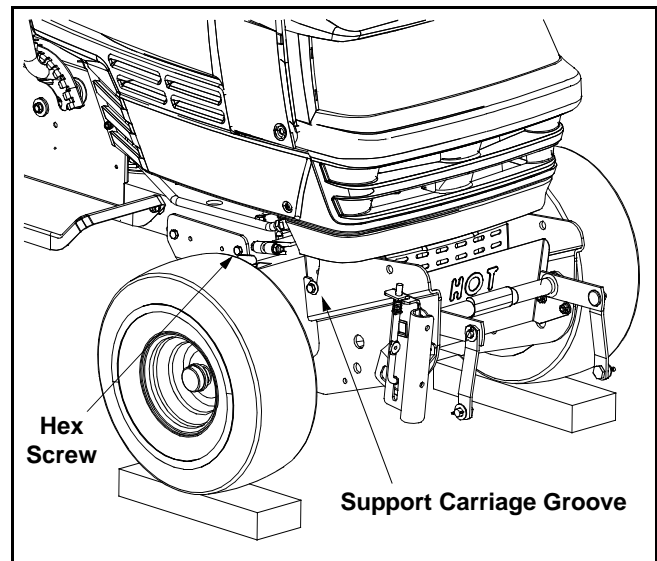

Figure 7
7. Pivot the front of the support carriage upward until the small grooves found in the front portion of support carriage slide **between** the belleville washers inserted in step 1 and the tractor's front pivot bracket. See Figure 7.
8. Reinsert the remaining hex screws removed in Step 4 through the remaining aligning holes in both the support carriage assembly and the tractor's frame rail (just behind the tractor's front pivot bracket). Securely fasten with the remaining lock washers and hex nuts. See Figure 7.